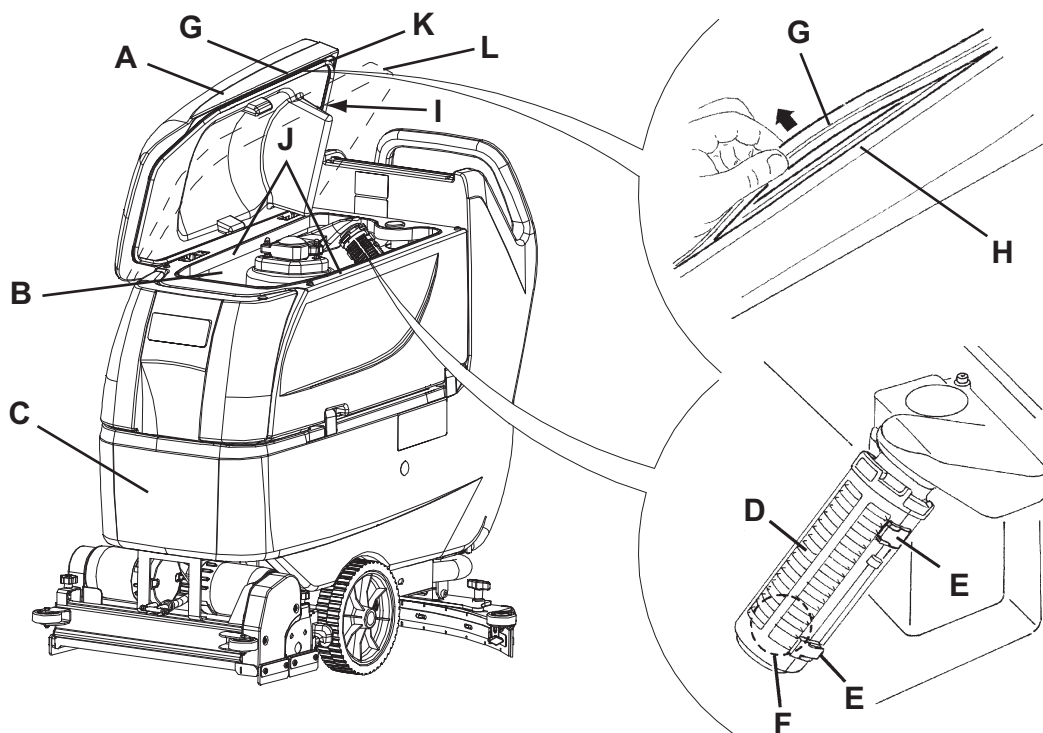

Figure 8
3. Open the cover (A, Fig. 8) to washing position (L).
4. Wash with clean water the cover (A), the tanks (B and C) and the vacuum grid with automatic shut-off float (D).